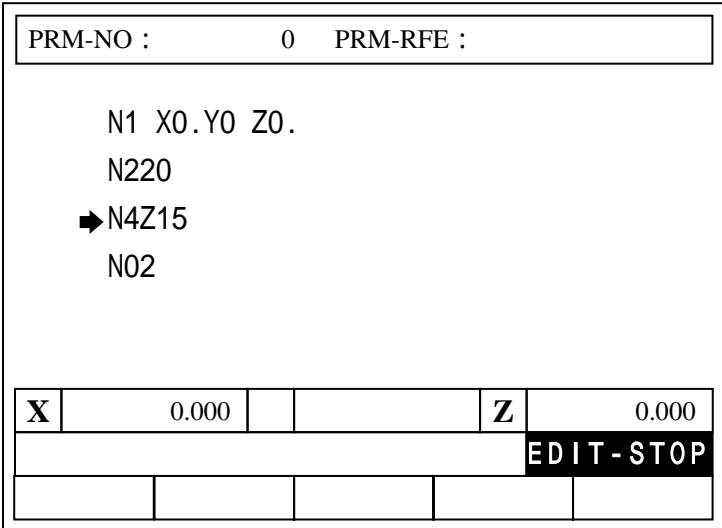

Fig.2-26
3. Press DEL key and the LCD display is as shown in Fig 2-26 (Block N4)